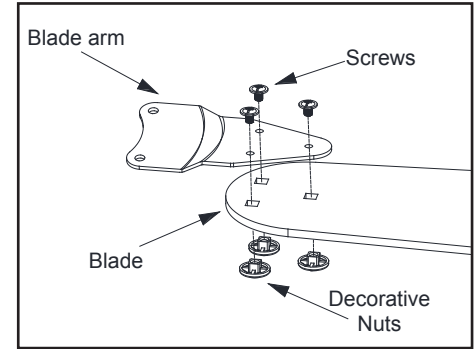

Figure 12
1. Attach a blade to blade bracket using the decorative nuts and blade attachment screws provided. Insert a blade attachment screw through the hole in the blade bracket and blade and into the decorative nut. Tighten each screw securely. (Figure 12)
2. Repeat these steps for each blade and blade bracket. (Figure 12)